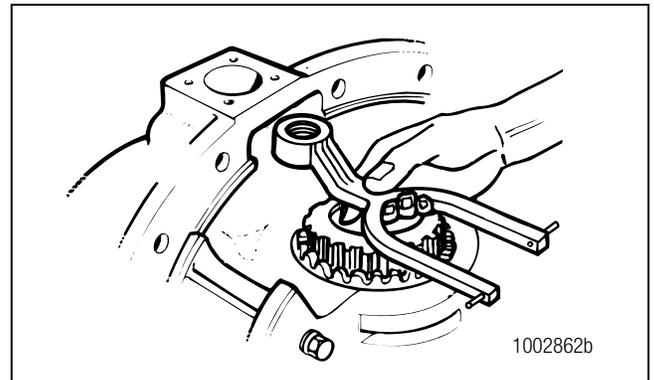

Figure 6.27
5. Install the shift fork into its correct position in the carrier case. Figure 6.27.